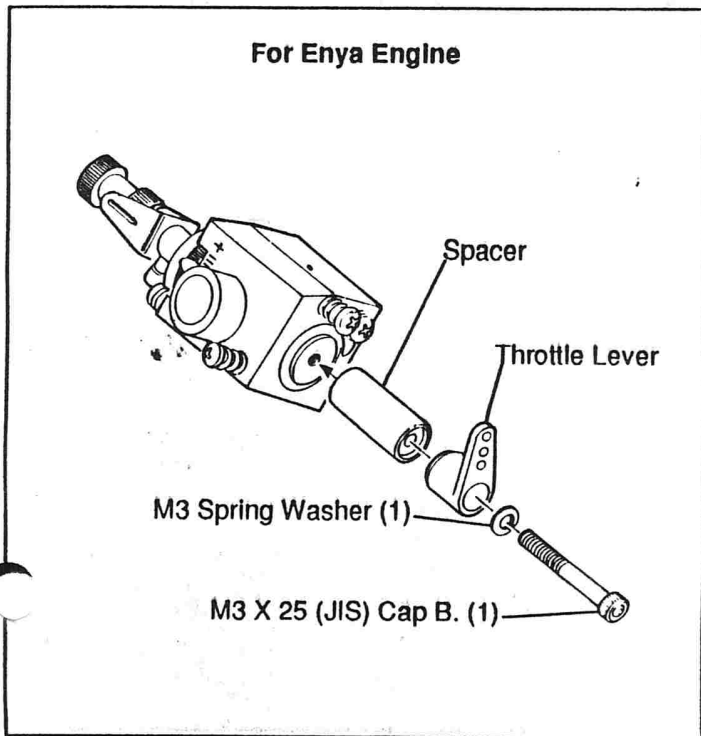
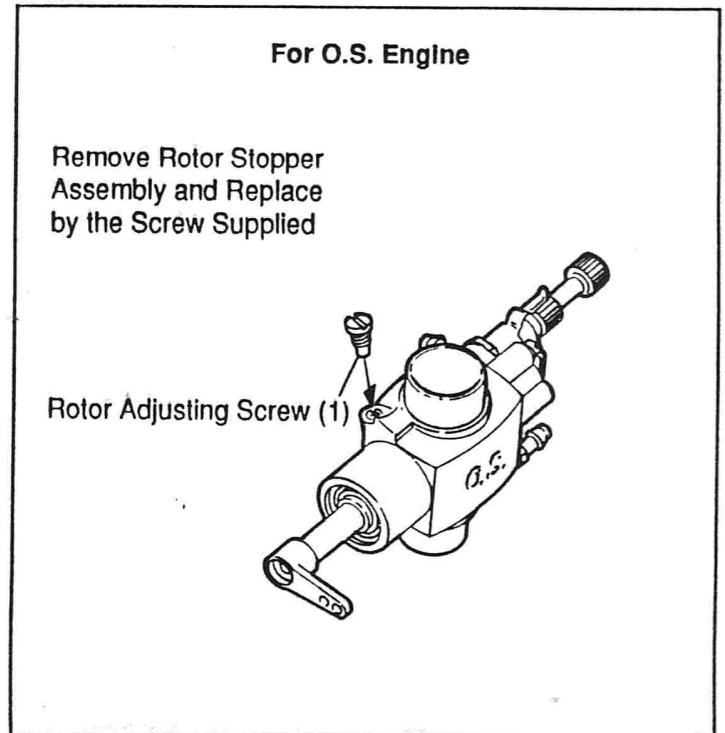

Figure 3-2b
Figure 3-2c
Step 18. Remove the carburetor from the engine (it will be reinstalled later, in step 23), and seal the intake hole with a piece of tape. If using an Enya engine (see Figure 3-2b), remove the throttle lever. Place (1) M3 spring washer, the throttle lever, and the spacer provided on (1) M3 X 25 (JIS) cap bolt. Secure this assembly to the carburetor. If using an O.S. engine (see Figure 3-2c), remove the barrel stop screw from the carburetor, and replace with the special rotor adjusting screw provided. [(1) M3 X 25 JIS Cap B.]